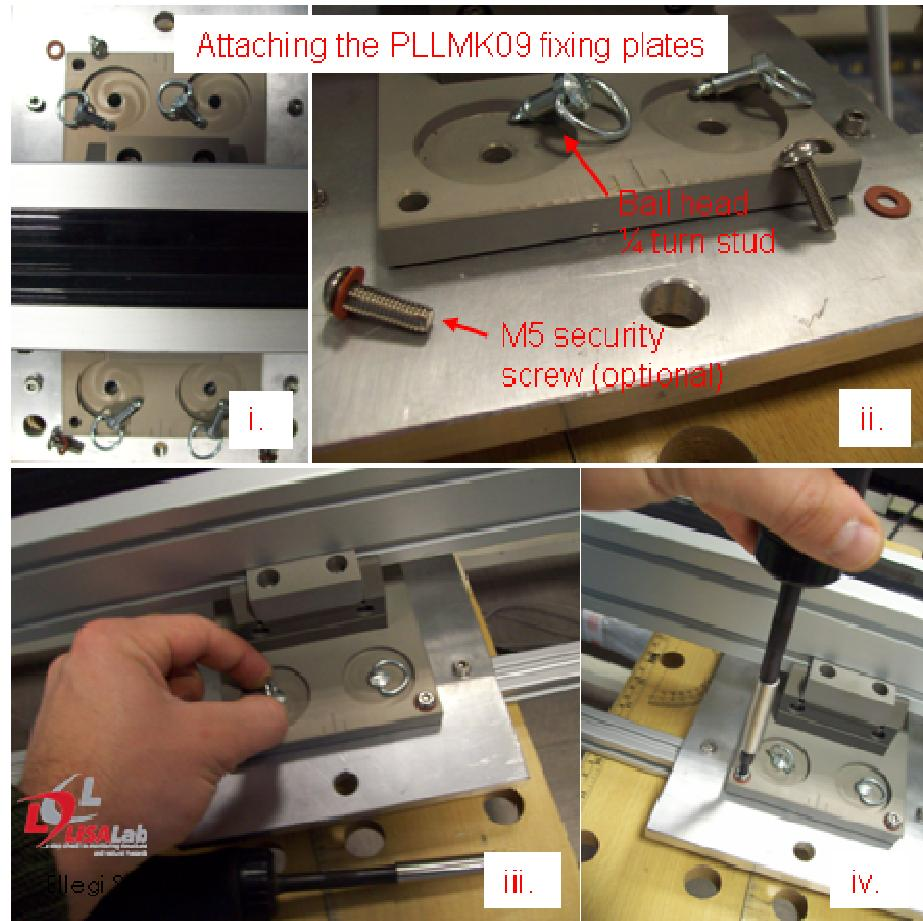

Figure 8: Step 2 of the installation procedure. Attaching the PLLM fixing plates to the counterplates.
2. Attach each fixing plate to its counterplate inserting four bail head  $\frac{1}{4}$  turn studs in the fixing plate customized holes (Figure 8). Optionally also four M5 security screws can be inserted in each fixing plate (always install the security screws with their o-rings).